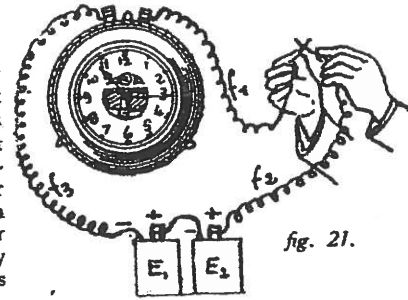

fig. 21.
**SEPARATE VERIFICATION OF A RECEIVER.**—To verify a receiver, a battery with two good elements should be used, whose terminals should be connected with those of the receiver. We shall then interrupt the circuit periodically, by hand, trying at the same time to provide for the rythm of one interruption every 1/2 second. The pendulum of the receiver should start oscillating under the influence of the successive current impulsions transmitted to the coil (see fig. 21).
**SEPARATE EXAMINATION OF THE CONTACTS OF THE TIME DISTRIBUTION.**—A good battery and receiving clock should be directly connected as shown on fig. 21. The pendulum of the receiving clock ought to beat with great amplitude. When disposing of a continuous current milliamperemeter, it may be used to ascertain the intensity of the current sent by the regulator. In connecting this instrument we must be careful not to proceed as in